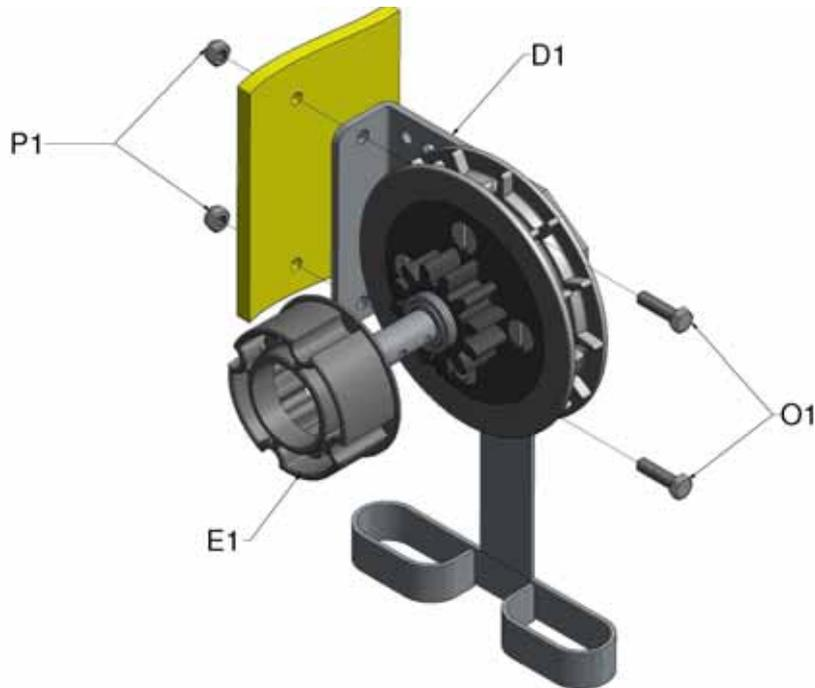

Figure 4a, Attach Drive Bracket to Building
- Slide drive collar (E1) onto chain wheel gear attached to drive bracket (D1) and bolt assembly to the building with M8 fixings supplied, Figure 4a. The orientation of the drive bracket is as specified when you ordered your door, see Figure 4b and 4c, the spring is situated on the opposite side. If you wish to fit the drive bracket to the opposite side to that ordered, refer to instructions in Appendix I.